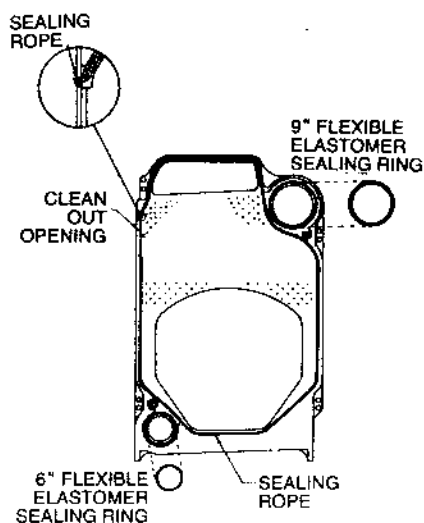

FIGURE 2
- Position the $\frac{1}{2}$ " by 149" long sealing rope on the section by starting at the cleanout opening (see FIGURE 2). Be sure the sealing rope is well seated at all points in the sealing grooves so that a gas-tight seal will be maintained between the sections. DO NOT APPLY adhesive to the opposing sealing grooves of the next boiler section.
- Wipe the port openings with a clean rag to remove any grit from the machined surfaces. Do not use any cleaner that contains a petroleum base distillate (oil) to clean ports. Place the 9" and 6" elastomer sealing rings in the appropriate port openings (see FIGURE 2).